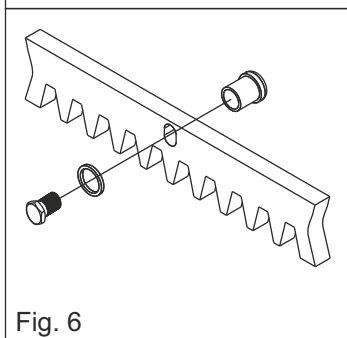

Fig. 6
5.2. Fix on each gear rack element the support pawls with the appropriate lock screws, making sure to put them in the upper part of the hole (Fig. 6) ;